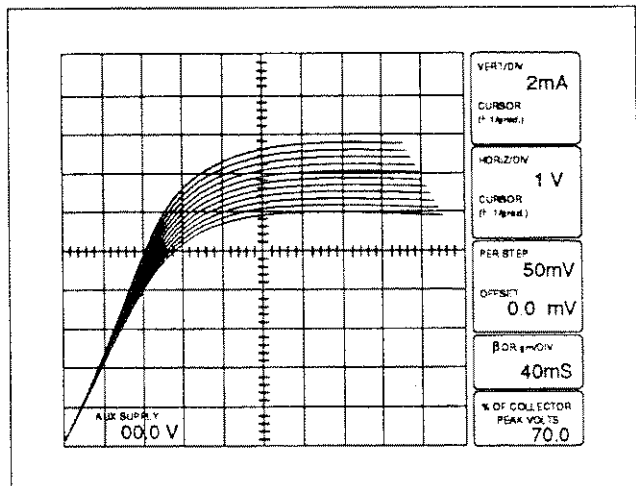

Figure 3-11. Display of FET common-source characteristic curves: I_D vs V_{DS} for 10 steps of gate voltage.
27. Turn the VARIABLE COLLECTOR SUPPLY control slowly clockwise. Note the display of drain current vs drain-source voltage with voltage steps applied to the gate (see Figure 3-11). Since the steps applied to the gate are positive-going, the curves displayed represent enhancement mode operation of the FET. (Set number of steps to zero to display the curve obtained with zero volts applied to the gate, then set number of steps to 10.)